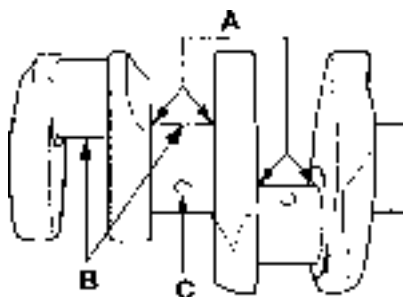

Fig. 73. Checking of recess radius
1. Grind the crankshaft in a crankshaft grinding machine to the undersize as per "Technical data". Surface fineness 1.6 Z (VV▼) for bearing races (B, Fig. 73) and recess radius are achieved by rubbing with emery cloth No. 400.